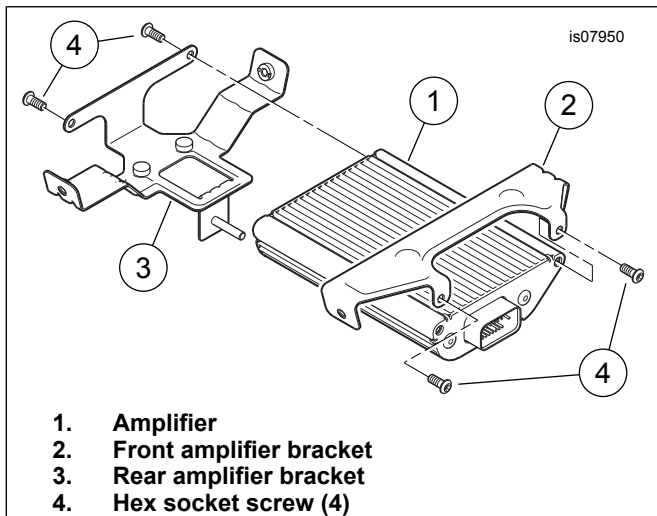

Figure 2. Install Amplifier Mounting Brackets
2. See Figure 2. Install the amplifier brackets to the amplifier (1). Tighten the screws to 9–12 N·m (7–9 ft-lbs).